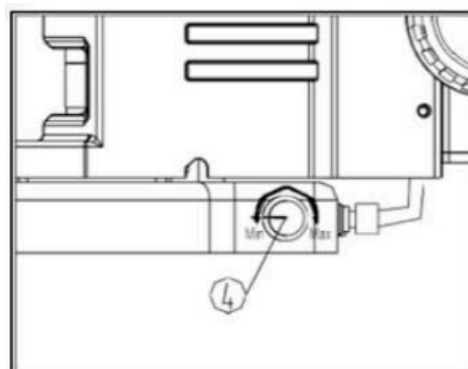

Fig 7
- Rotate the light adjustment knob (4) to adjust the illumination brightness. Rotate the light adjustment knob clockwise to raise the brightness, while counter-clockwise to decrease the brightness. (See Fig.7)